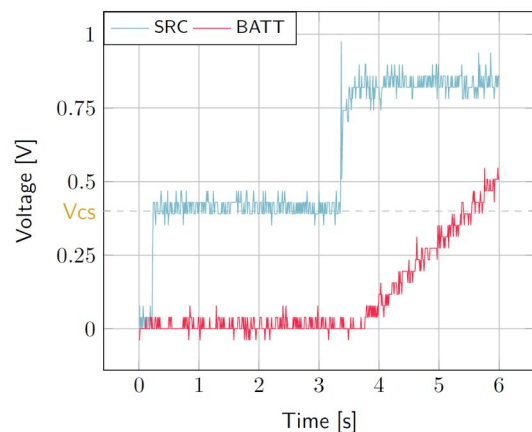

Figure 6: AEM10941 behaviour during cold start
**SRC**: Equal to the cold-start voltage during the coldstart phase. Regulated at the selected MPPT percentage of  $V_{OC}$  when cold start is over. (See Figure 6). Be careful that the cold-start phase time will shorten with the input power. Limit it to ease the observation.
**BATT**: Starts to charge when the cold-start phase is over (see Figure 6).